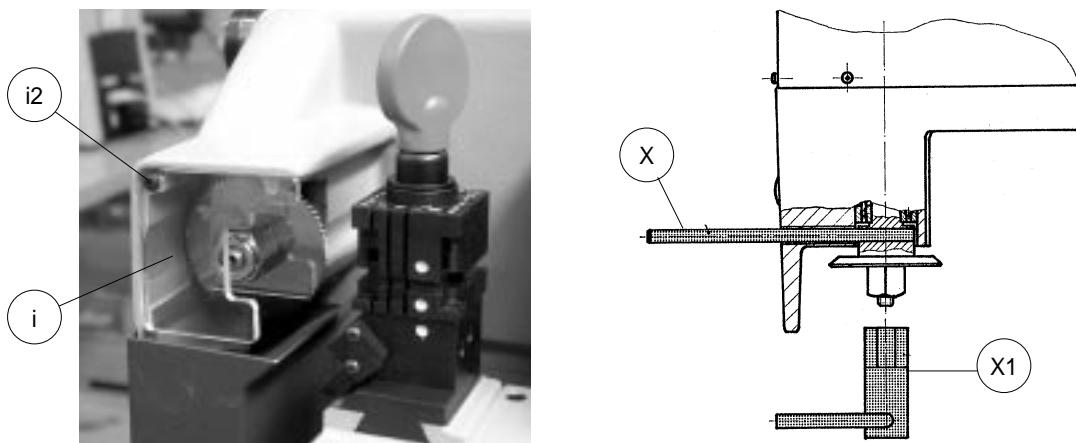

Fig. 44
- 3) slide the cutter release rod (X) into the hole located on the left side of the machines cutter shaft chassis (fig. 44).